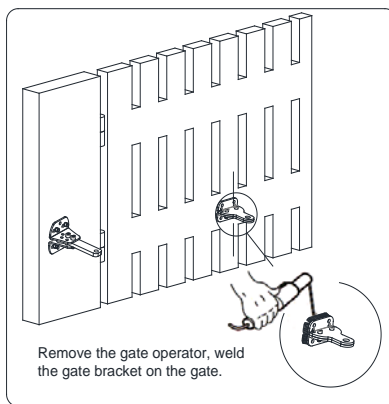

Fig.13
- After you have identified the desired position of the bracket, remove the gate operator and permanently fix or weld the gate bracket. See Fig.13.